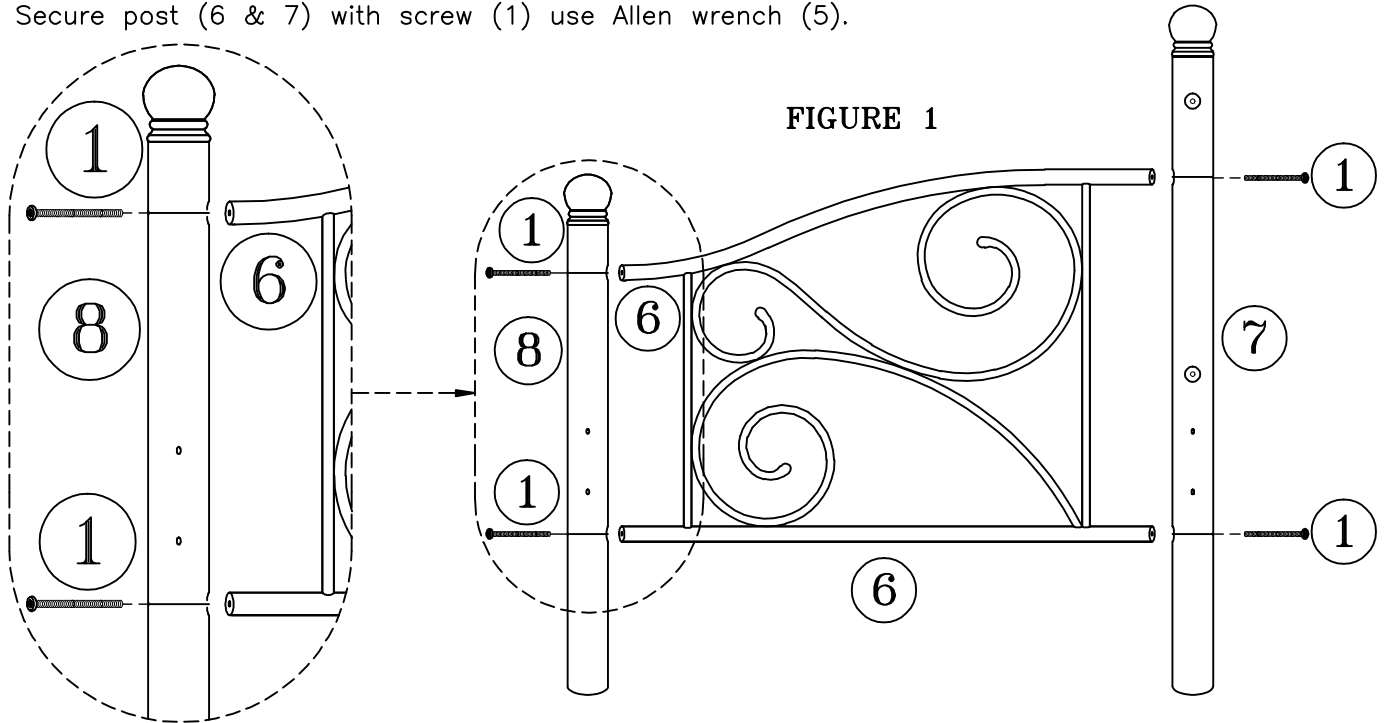

FIGURE 1
- Align side panel rail ends (6) to holes in front post (8) and back post (7). SEE FIGURE 1
- Insert screw (1) through holes on opposite side of post.
- Secure post (6 & 7) with screw (1) use Allen wrench (5).